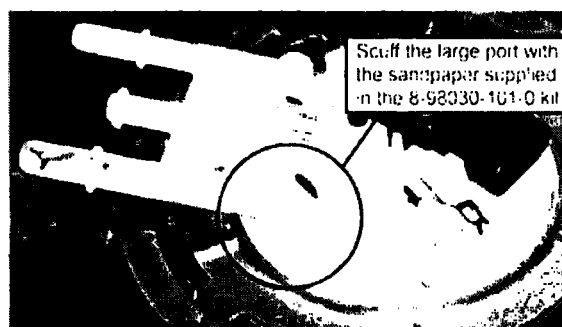

figure 2
1. Using the sandpaper supplied in Campaign Service Kit 8-98030-101-0, scuff the fuel pump feed port as shown in *figure 2* as well as the inside portion of the two plastic halves contained in the Campaign Kit. After scuffing, prep the port and plastic halves thoroughly by using Isopropyl alcohol to clean and remove any oils, grease, and other contaminants.